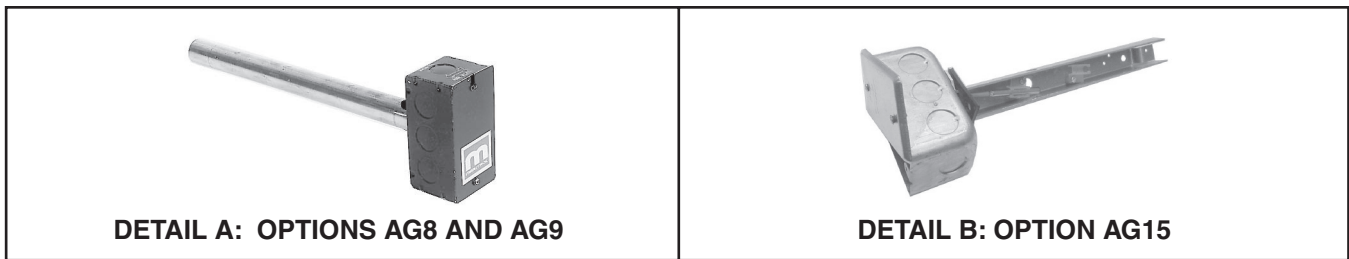

Figure 22. Discharge Air Temperature Sensor and Holder
- (1) Position of sensor in duct is also important—mixing tube shown in Figure 22, DETAIL A is 12 inches (305 mm) long and holder shown in Figure 22, DETAIL B extends 9-3/16 inches (233 mm) into ductwork.
- (2) Turn holder so that element is shielded from direct airflow and will sense air temperature as it flows through holes in holder.
- (3) At selected ductwork location, mark diamond-shaped hole—approximately 1 × 1 inch (25 × 25 mm—required for sensor holder or round hole required for mixing tube and cut hole no larger than necessary.
- (4) For units with option AG8 or AG9, slide mixing tube (see Figure 22, DETAIL A) into ductwork and attach sensor.
- (5) For units with AG15, push element into clip in holder (see Figure 22, DETAIL B), slide holder into ductwork, and position holder so that it shields sensor from direct airflow. Secure box portion of holder to ductwork using four field-supplied #6 sheet metal screws.